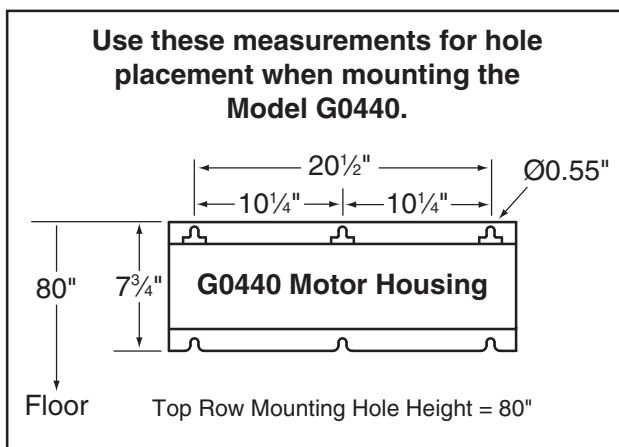

Figure 12. G0440 wall mounting layout.
- Copy the mounting hole layout pattern from the motor housing (see **Figures 12–14**) to your wall mounting board, making sure the **Top Row Mounting Hole Height** is correct for your dust collector.
1. Copy the mounting hole layout pattern from the motor housing to your wall, making sure the **Top Row Mounting Hole Height** (see **Figures 12–14**) is correct for your dust collector.